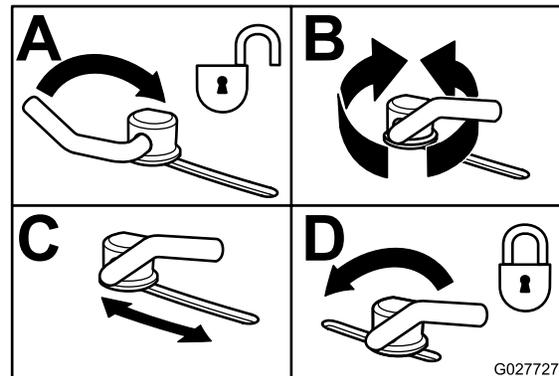

Figure 38
3. To adjust the cam locks, swing the lever up to loosen the cam lock (Figure 38).
5. Swing the lever back over to tighten the baffle and cam locks (Figure 38).